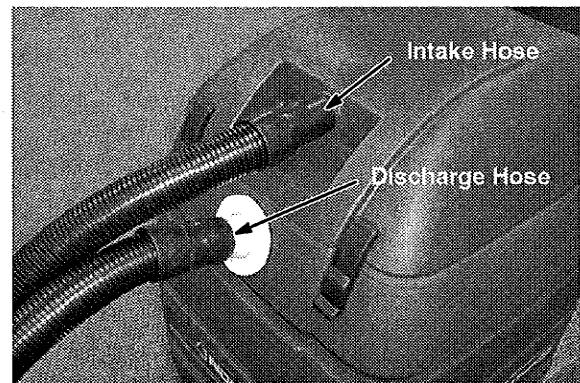

FIG. 2
3. Connect 5 M (15 ft) hose to intake connector and 8 M (25 ft) hose to discharge connector (Figure 2). Place opposite end of discharge hose outside or to drain that will handle large volume of water.